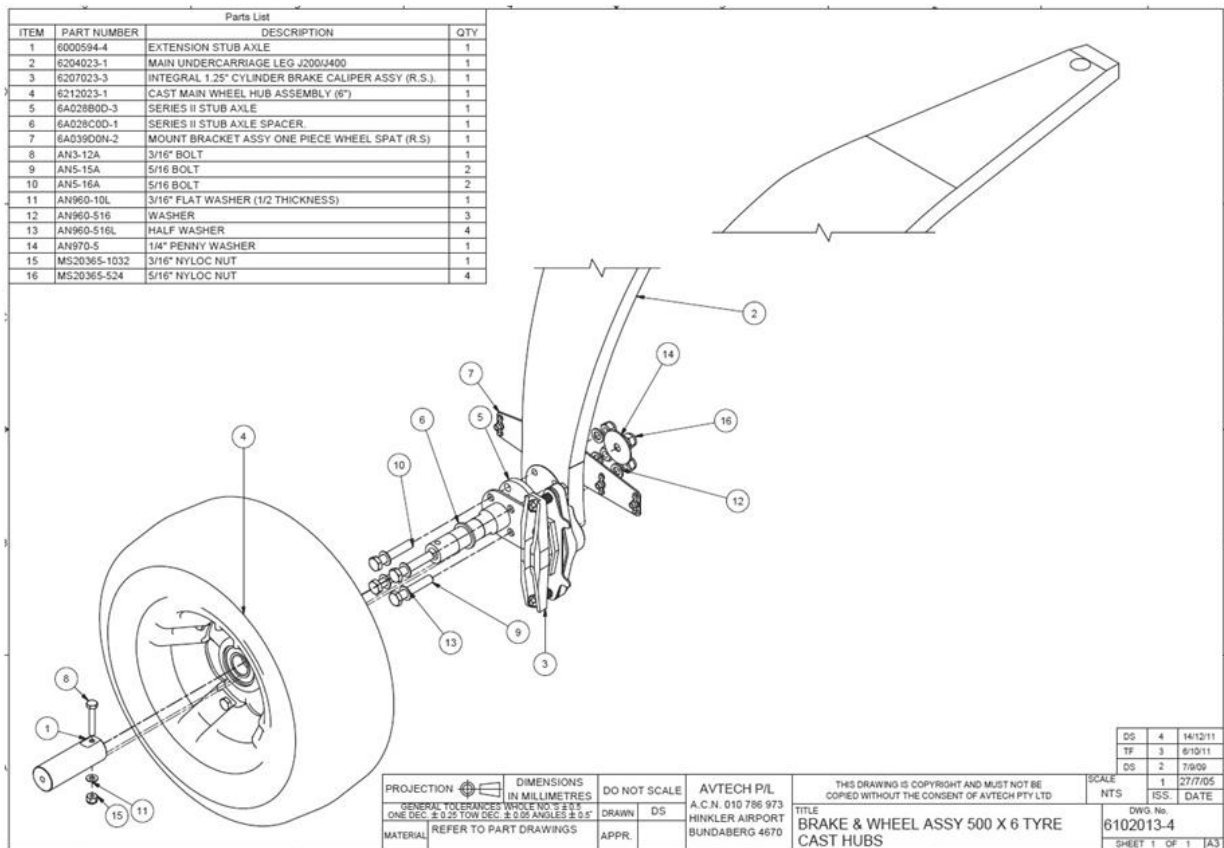

Figure 73 – Main Wheel to Leg Assy (all J-Series)
- Figure 73 shows a typical installation. While details and part numbers vary from model to model the general arrangement shown applies to all aircraft.
- 2. While older and lighter aircraft models use a hollow axle stub, most recent aircraft use a solid version of the same part. When using the solid axle, an Aluminium bearing spacer ring must be fitted to the stub before the wheel assembly – see Figure 73. This part is not required for hollow axles.